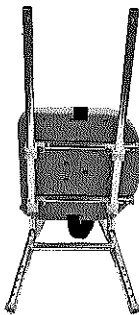

Figure 2
4. Insert the rail with 4 push buttons into the side of the frame you want the seat to face, **making sure the two larger push buttons face downward, and the two smaller push buttons face outwards** (the smaller push buttons are for the sliding rail locking mechanisms). Make sure the larger, bottom button snaps firmly into the frame. *See Figure 2.*
5. Insert the other sliding rail into the other side of the leg frame (Part A) as shown in *Figure 2*, making sure the button snaps firmly into place.
6. Take the seat with the attached sliding rings (Part D), and align the sliding rings with the rails, so that the locking side of the seat (the side with the red tabs) is on the same rail as the 4 brass push buttons. Insert both sliding rails into the sliding rings under the seat. Push in the push buttons to slide seat easily onto the rails. *See Figure 2.*